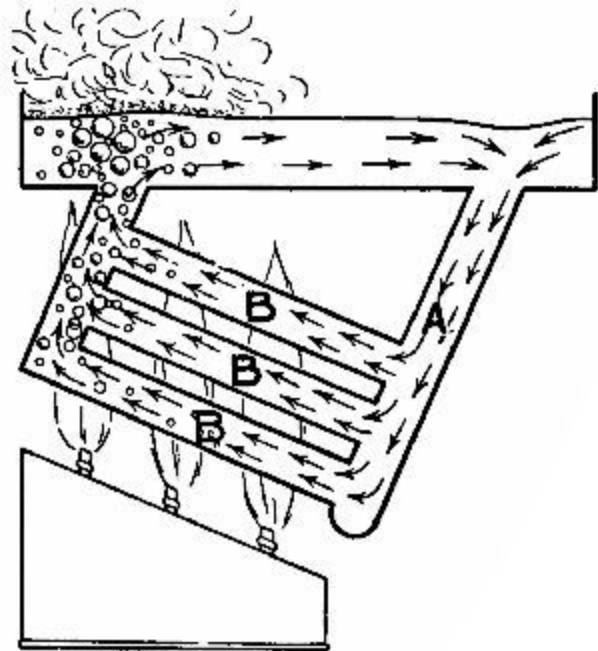

FIG. 5.
A further improvement results from increasing the number of tubes (Fig. 5), keeping them all on the slant, so that the heated water and steam may rise freely.
The Babcock and Wilcox boiler is widely used in mines, power stations, and, in a modified form, on shipboard. It consists of two main parts—(1) A drum, H, in the upper part of which the steam collects; (2) a group of pipes arranged on the principle illustrated by Fig. 5. The boiler is seated on a rectangular frame of fire-bricks. At one end is the furnace door; at the other the exit to the chimney. From the furnace F the flames and hot gases rise round the upper end of the sloping tubes TT into the space A, where they play upon the under surface of H before plunging downward again among the tubes into the space B. Here the temperature is lower. The arrows indicate further journeys upwards into the space C on the right of a fire-brick division, and past the down tubes SS into D, whence the hot gases find an escape into the chimney through the opening E. It will be noticed that the greatest heat is brought to bear on TT near their junction with UU, the "uptake" tubes; and that every succeeding passage of the pipes brings the gradually cooling gases nearer to the "downtake" tubes ss.